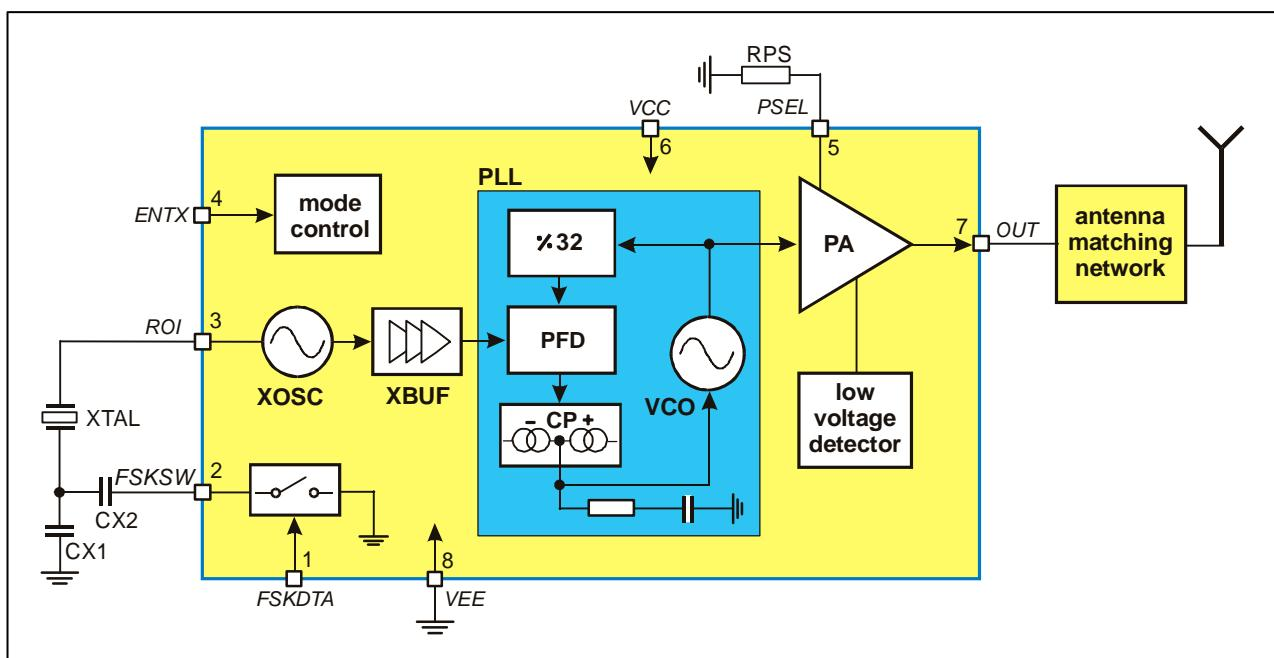

Fig. 1: Block diagram with external components
As depicted in Fig.1, the TH72011 transmitter consists of a fully integrated voltage-controlled oscillator (VCO), a divide-by-32 divider (div32), a phase-frequency detector (PFD) and a charge pump (CP). An internal loop filter determines the dynamic behavior of the PLL and suppresses reference spurious signals. A Colpitts crystal oscillator (XOSC) is used as the reference oscillator of a phase-locked loop (PLL) synthesizer. The VCO's output signal feeds the power amplifier (PA). The RF signal power P_{out} can be adjusted in four steps from $P_{out} = -12 \text{ dBm}$ to $+10 \text{ dBm}$, either by changing the value of resistor RPS or by varying the voltage V_{PS} at pin PSEL. The open-collector output (OUT) can be used either to directly drive a loop antenna or to be matched to a 50Ω load. Bandgap biasing ensures stable operation of the IC at a power supply range of 1.95 V to 5.5 V.